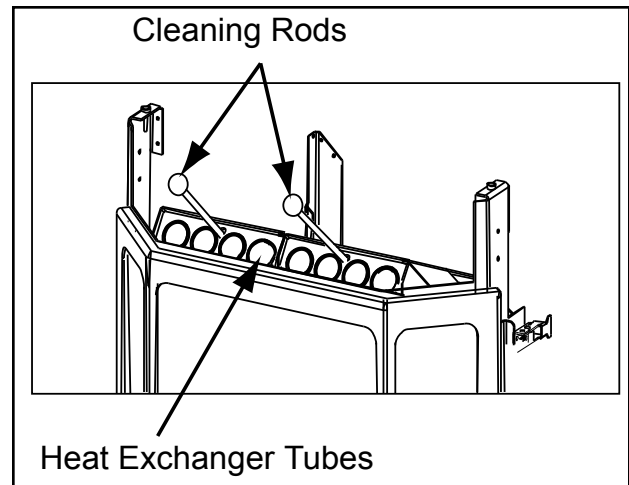

Figure 29.2
- a. Allow the appliance to completely cool down before pulling the cleaning rods. Turn the thermostat on and then immediately off to start the exhaust blower on its cycle time. It will pull fly ash out the exhaust instead of into the room. Lift the stove top up from the front to access the 2 cleaning rods. **See Figure 29.2.**